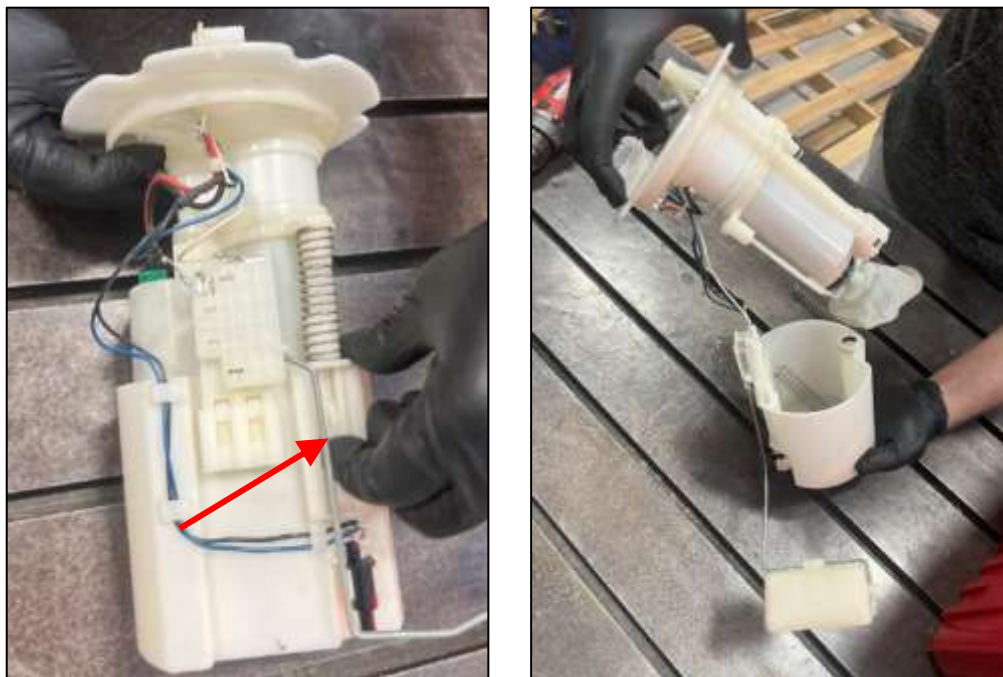

Figure 5
16. Compress the Top Hat/Spring and using flathead screwdriver or your finger, release the locking tab shown below and separate the top and bottom of the Basket Assembly. *Figure 5*.